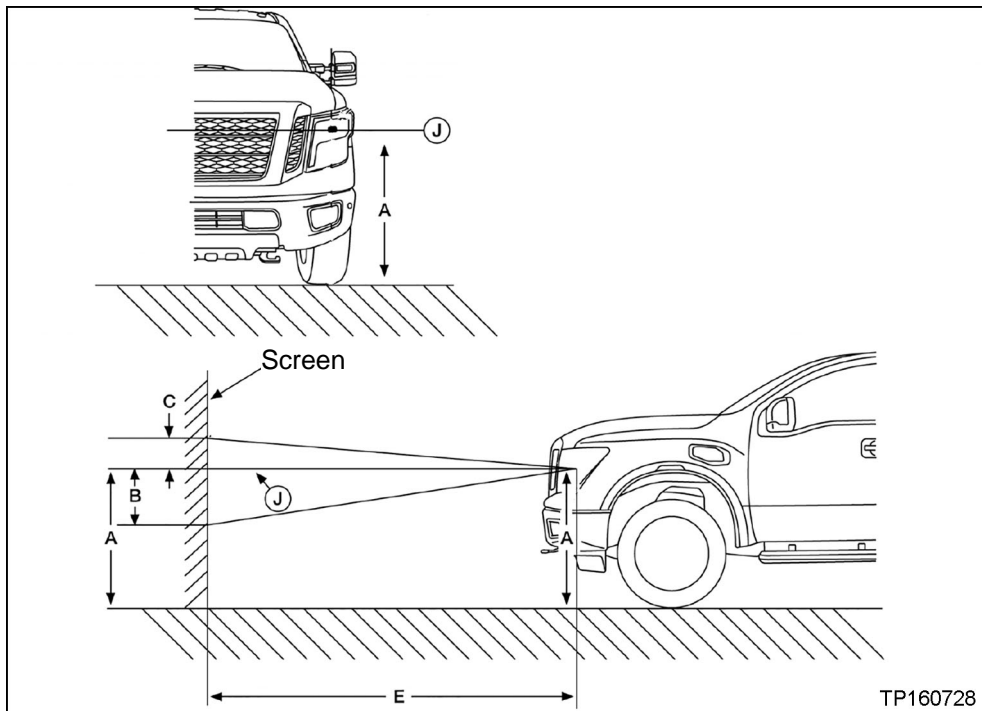

Figure 2
2. Place the vehicle 7.6 m (25 ft) from the screen (see dimension **E** in Figure 2).